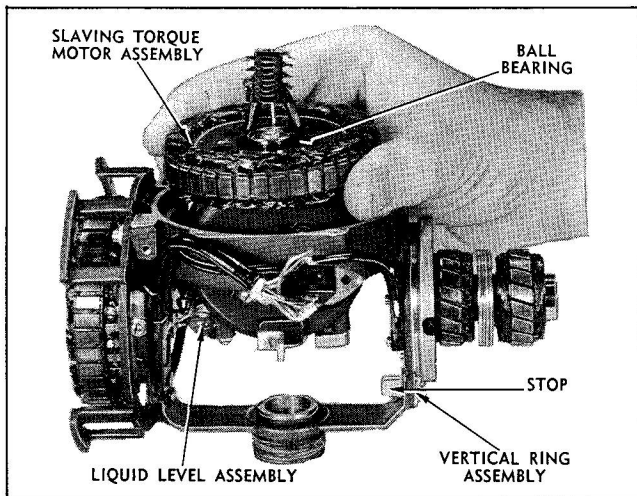

Figure 2-12 Removing Gyro and Slaving Torque Motor Assembly from Vertical Ring Assembly
(8) Carefully lift out the gyro and slaving torque motor assembly from the vertical ring. (See figure 2-12.) Be careful not to damage the stator winding and especially cautious not to damage the liquid level assembly.
(9) Remove the loose lower thrust ball from the vertical ring bearing bore and place it in a dustproof container.
(10) Remove the two ball bearings from the gyro housing pivots (journals) and place them in a dustproof container. (See figure 2-12.)
(11) See the vertical ring assembly and the end plate aside until ready for disassembly.